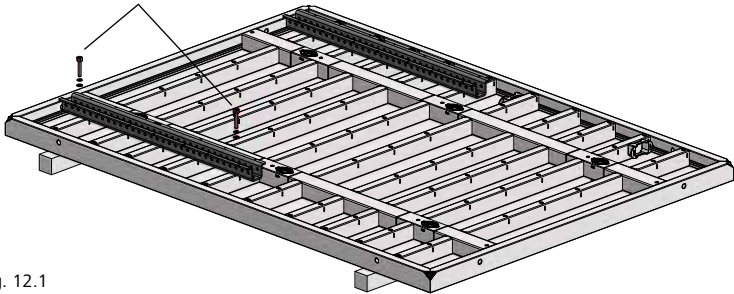

Fig. 12.1
5. Secure the two linkages to the panel using the two integrated screws 100 DW15/SW30 (30 mm across flats) for each linkage (Figures 12.1 and 12.2 as well as page MIS-11).